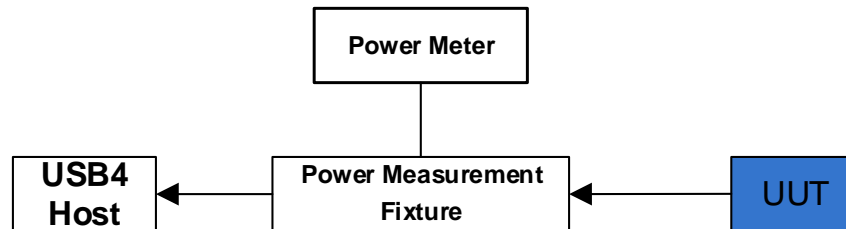

Figure 4-7: UUT (USB4 Hub Under Test) Power Consumption Measurement Topology
Connect a Power Measurement Fixture between UUT and USB4 host as shown in Figure 4-7.
- Connect a Power Measurement Fixture between UUT and USB4 host as shown in Figure 4-7.